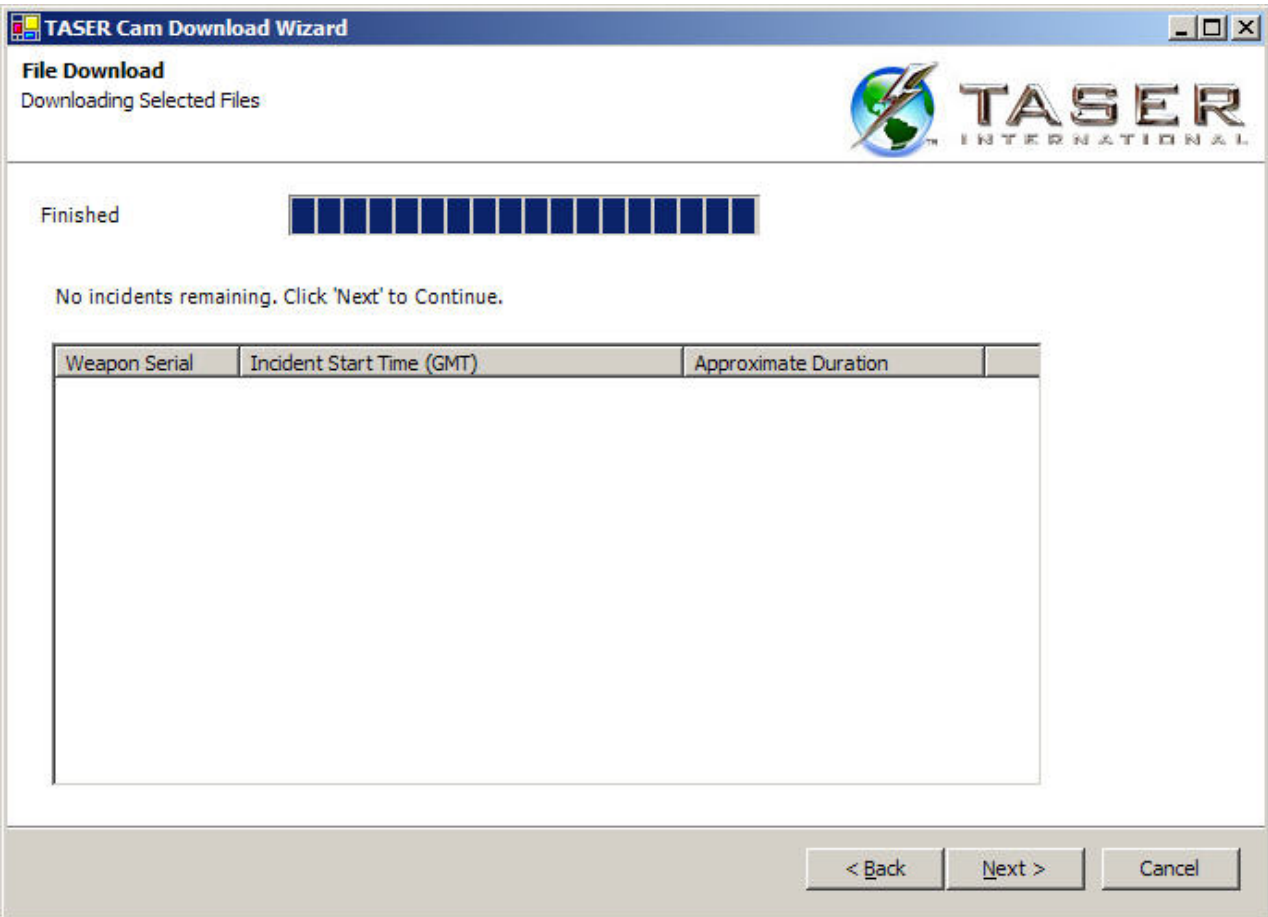

Figure 15
7. When the downloading is complete, click **Next** to continue (Figure 15).